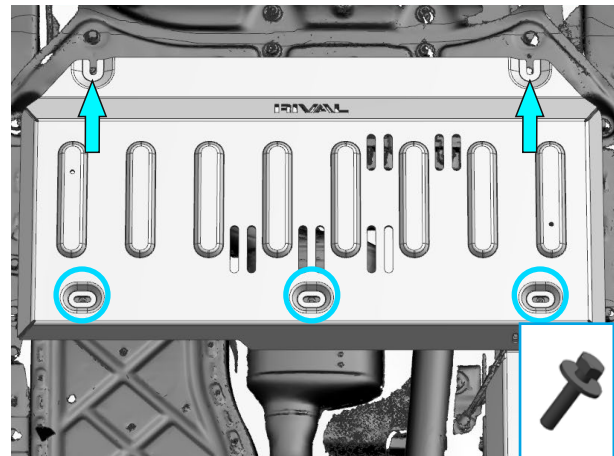

Fig. 4
4. Put transfer case skid plate (item 1) on installed bolts M10x30 from step 2. Fix skid plate to beam using bolts M10x30 and washers 10 (item B, C) (Fig. 4).